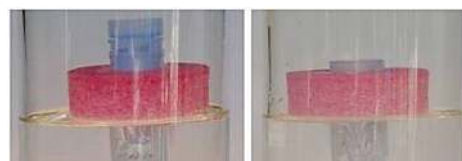

Figure 2: DiaEasy™ Dialysis floating rack in two positions to change the height at which the DiaEasy™ Dialysis tubes are held.
- IMPORTANT: Adjust floating rack height on 20 ml DiaEasy™ Dialyzer tube for upright floating balance during dialysis process. Example: For dialysis of less than 5 ml place the floating rack up to middle the height of the 20 ml DiaEasy™ Dialyzer tube. For dialyses of more than 5 ml adjust the floating rack at the top of 20 ml DiaEasy™ Dialyzer tube (see Figure 2)